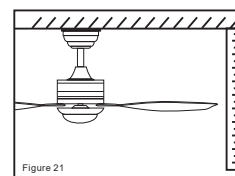

Figure 21
3. Check the level of all the blades are the same, check: Select the same slice of each blade Section have a point, measuring the height of the ceiling is consistent with the point (Fig. 21).